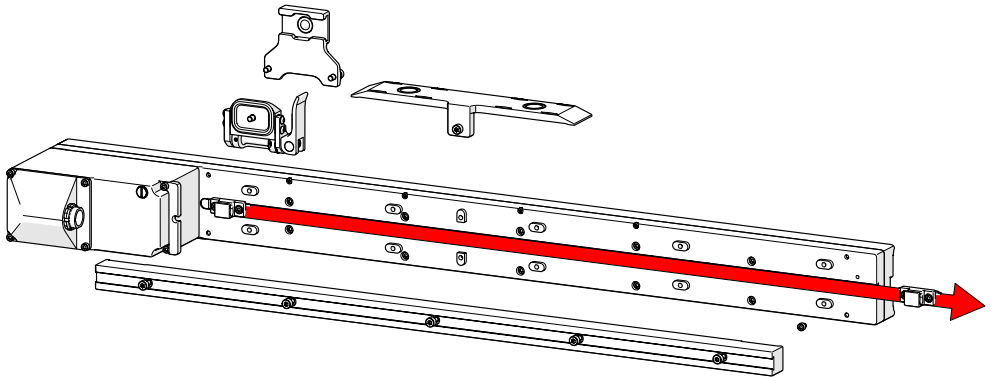

Fig. 148 - Slide cable clips from the raster arm
7. Slide the cable management clips from the raster arm (Fig. 148).